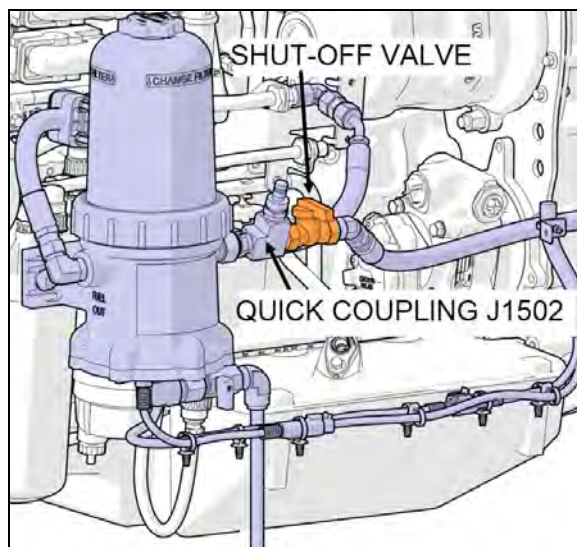
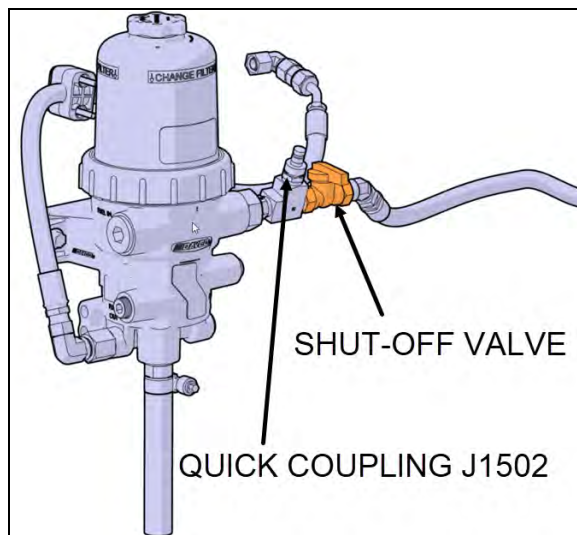

FIGURE 5: DAVCO FUEL PRO 382 WITH MANUAL SHUT-OFF VALVE
FIGURE 6: DAVCO FUEL PRO 386 WITH MANUAL SHUT-OFF VALVE
The Fuel Pro 382 (Figure 5) and Fuel Pro 386 (Figure 6) fuel processor is installed between the fuel tank and the secondary fuel filter and is used as the primary fuel filter. This system also serves as a water separator and is equipped with heating for winter conditions. Davco Technical Manual F1387 is available on Prevost technical Publications site.
2. Close the shut-off valve on the “fuel in” side of the fuel filter (Figure 5).
3. Remove the vent cap & vent cap O-ring (B) and open the drain valve (I) at the base of the Fuel Pro body and drain the fuel until it is below the collar (A) level.
5. Untighten the collar (A), remove clear cover, filter spring (F), filter element and cover O-ring (E).